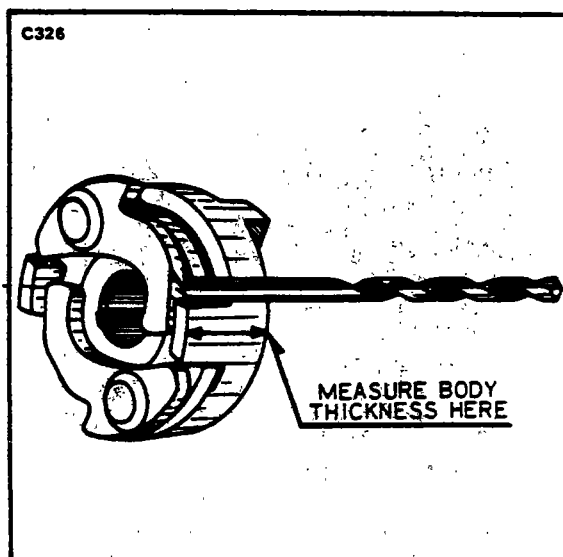

Figure 8-15. Impulse Coupling
9. Inspect impulse coupling (-21 and -204 magneto) flyweights for excessive looseness on the axles. Design couplings having .927 inch thick body should be checked with 1/8 inch drill. Couplings with .974 inch thick body are checked with a No. 18 drill. If drill fits between cam and flyweight, the fit is too loose and coupling should be replaced. (Refer to Figure 8-15.)